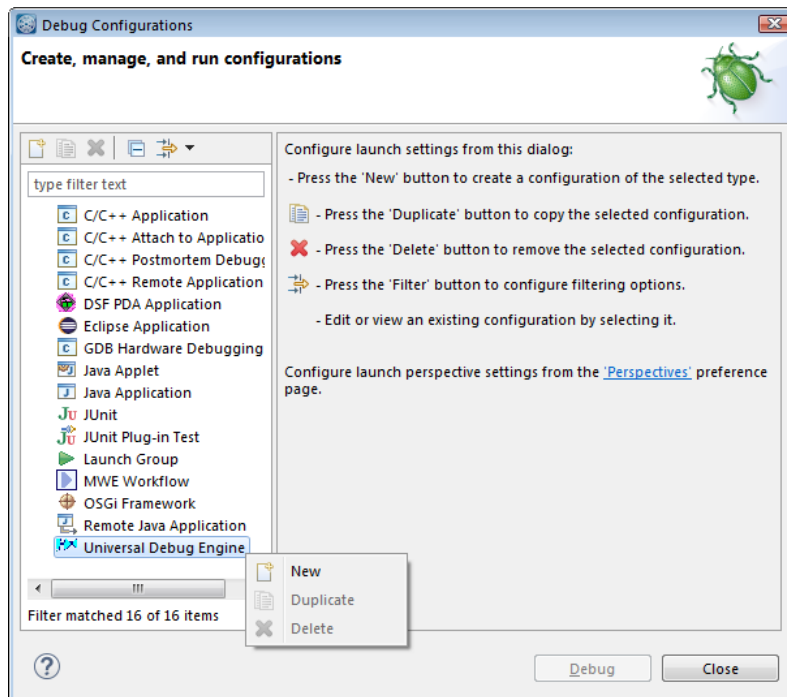

Figure 31 Debug Configurations dialog
2. The **Debug Configurations** dialog appears. Select **Universal Debug Engine** as debug type (Figure 31).